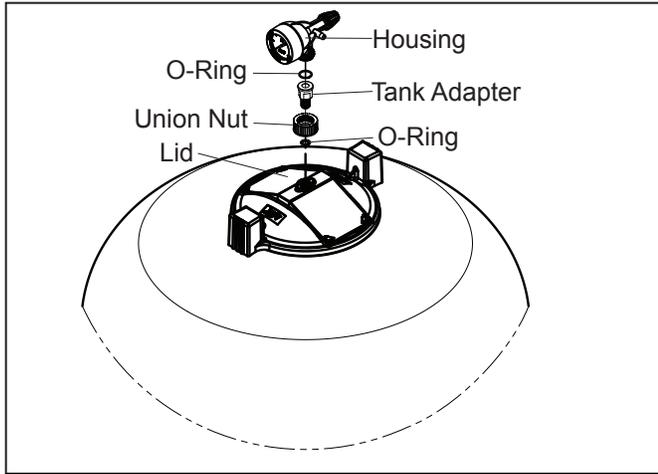

Figure 4. Pressure Gauge/Air Release Assembly
- a. Place the smaller, thicker o-ring onto the threads of the tank adapter. See Figure 4. Slide the tank adapter through the coupling nut and into the filter tank lid. Use the flats on the tank adapter to tighten. Do not overtighten.
- If not already in place, the filter gauge/air relief valve assembly should be installed per Figure 4 in Section 3.3.